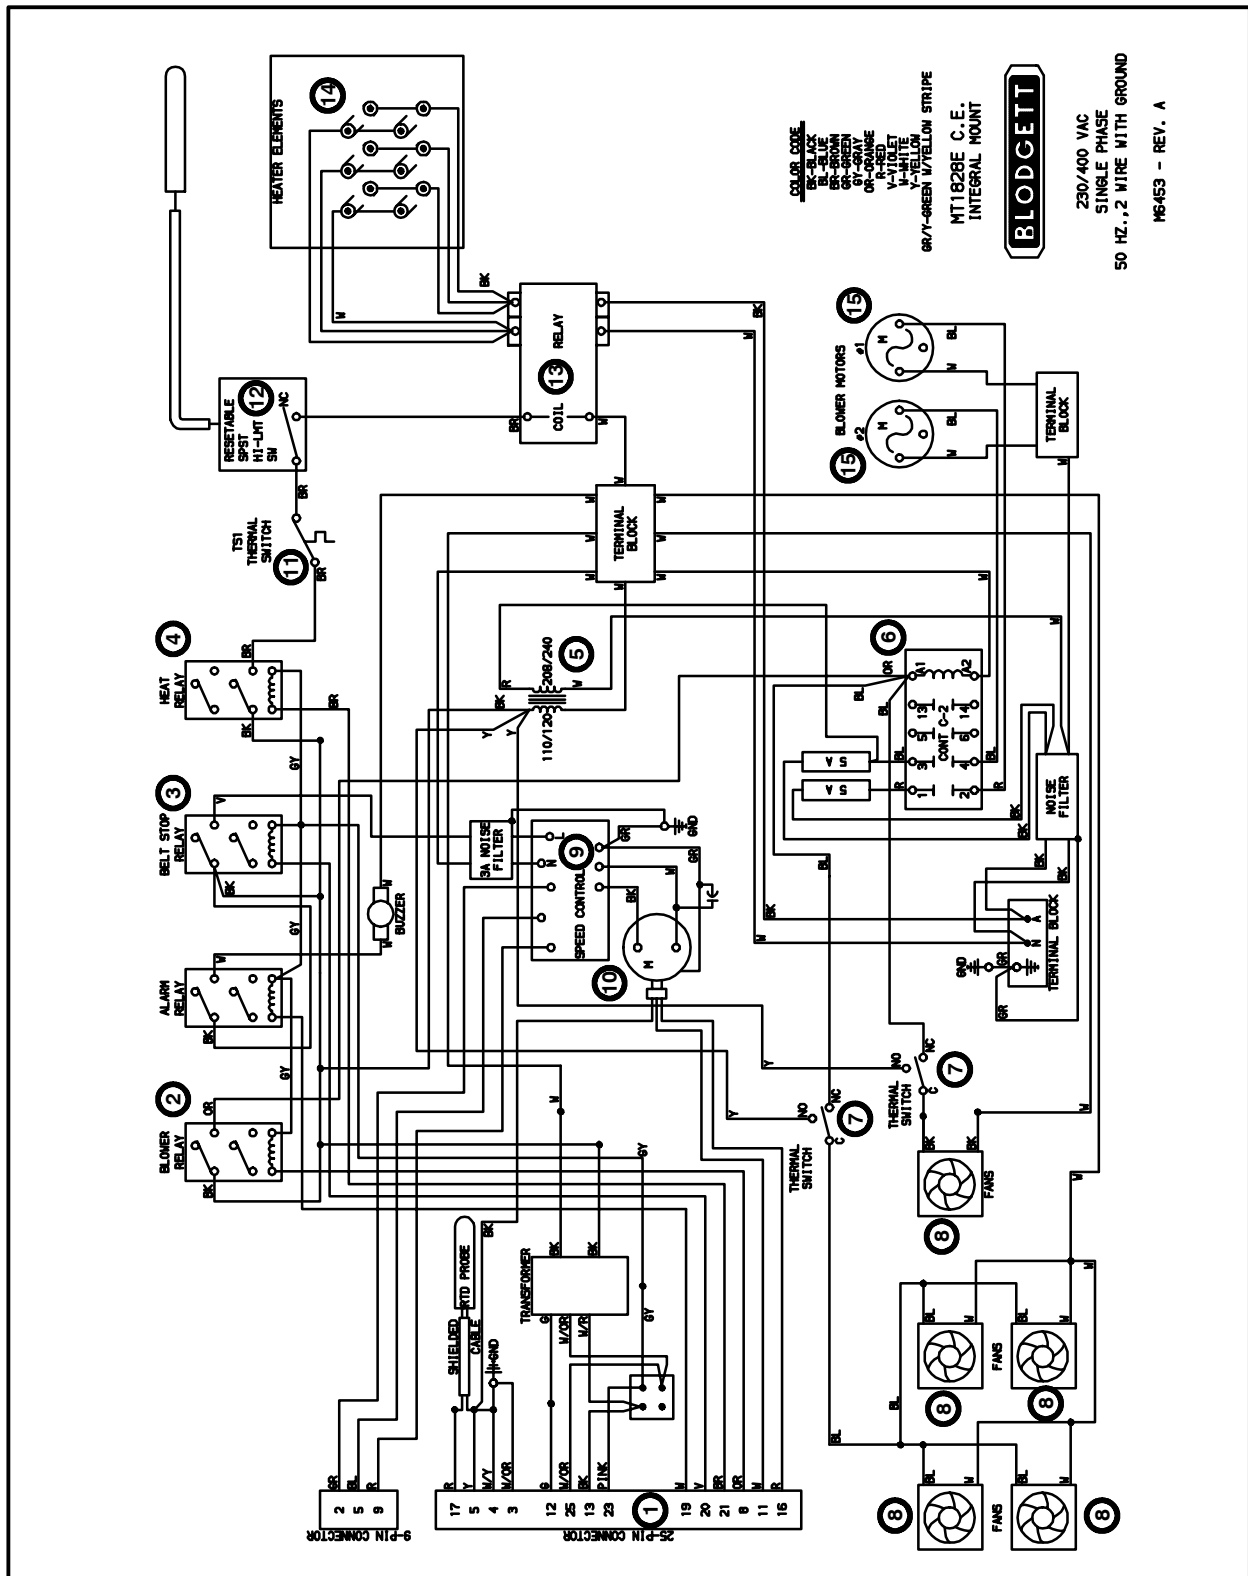

FIGURE 6
*NOTE: Refer to FIGURE 6 for component locations.*